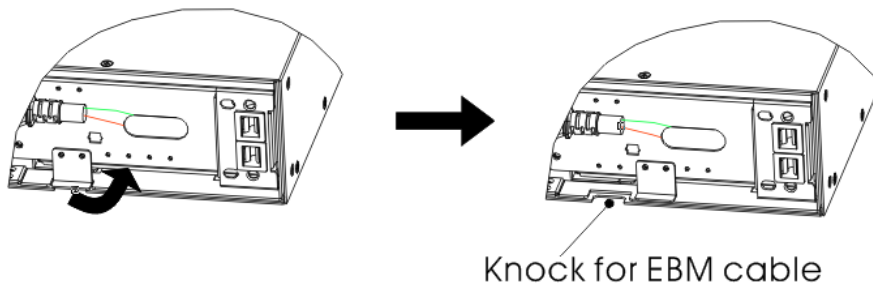

Figure11 Removing the UPS Cable Knockout
2. On the bottom of the UPS front cover, remove the EBP cable knockout (see Figure 11).